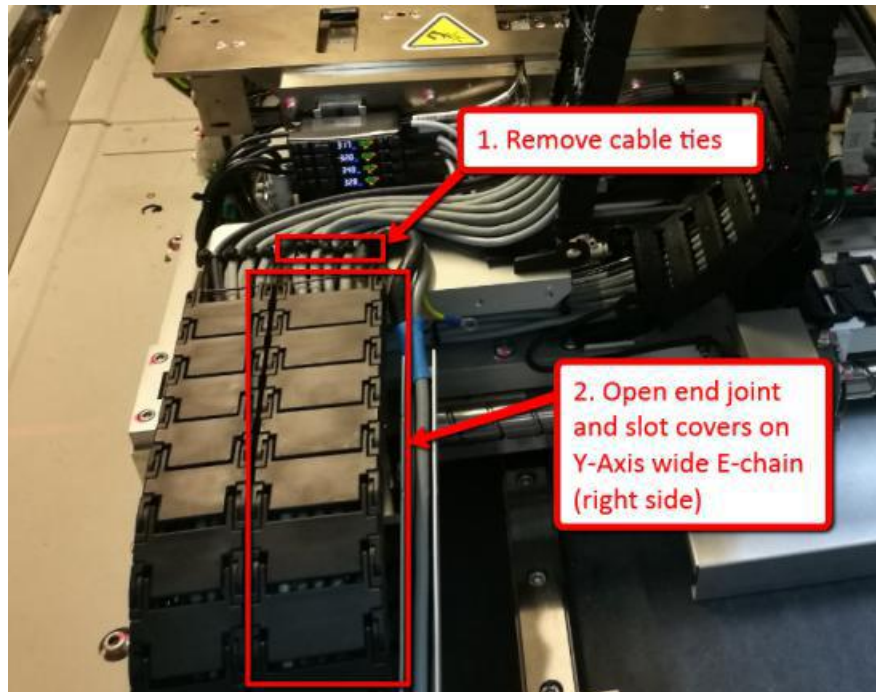

Figure 19
22. Remove necessary cable tie. Use flat head screw driver to open end joints and slot covers on Y-Axis wide E-chain (right hand side) as shown in Figure 19.